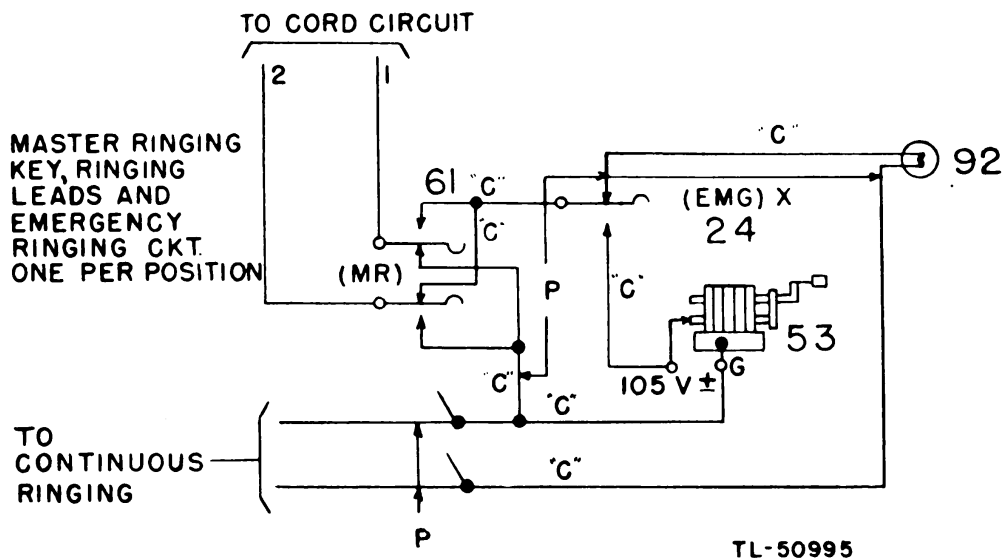

Figure 37. Ringing circuit, schematic diagram, Switchboard BD-110-().
e. Connection to Universal Trunk Circuits. (1) **INCOMING CALLS.** In response to an incoming call signal, the plug of an answering cord is inserted into the line jack of a trunk. The supervising lamp A will not light as it does when the plug is connected to a common battery line, since the sleeve of the trunk jack is not grounded. Supervision of the connection depends upon the lamp associated with the cord connected to a local line. Should the local operator fail to disconnect the cords at the completion of a call, the distant operator can light the A supervisory lamp by placing ringing current on the line thus causing the recall lamp to light through the operation of the A relay.
f. Busy Test. When making a busy test, the TALK-RING key is operated to TALK. The tip of the plug of the calling cord is touched to the sleeve of the multiple jack of the called line. A click of the receiver of the associated operator's telephone circuit indicates a busy line. If there is no click, the line is idle, and the plug of the calling cord may be inserted into the multiple jack of the called line. (See par. **21b** (2) for a detailed description.)
20. RINGING CIRCUIT (fig. 37).